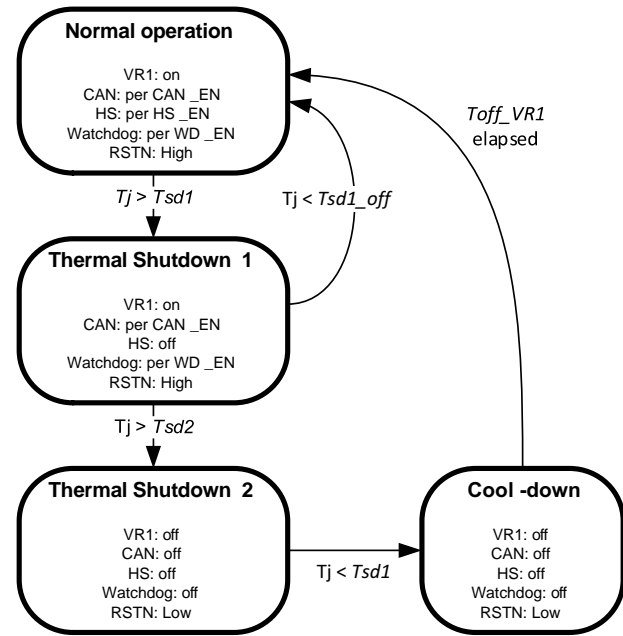

Figure 14. Thermal monitoring flow chart
- ◆ ·Temperature (see Figure 14)
The details of the thermal protection handling are shown in Figure 14.